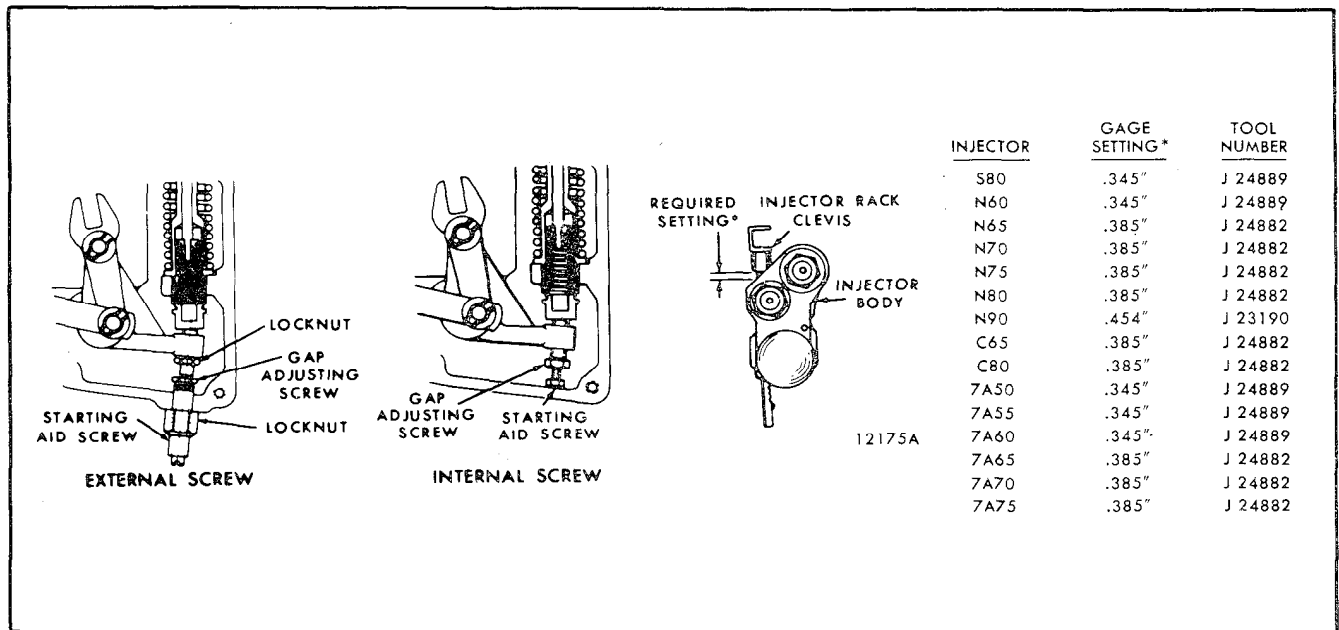

Fig. 6 - Starting Aid Screw Adjustment
- b. Adjust the starting aid screw to obtain the required setting between the shoulder on the injector rack clevis and the injector body (Fig. 6). Select the proper gage and measure the setting at any convenient cylinder. When the starting aid screw is properly adjusted, the gage should have a small clearance of 1/64" (.397 mm) in the space along the injector rack shaft between the rack clevis and the injector body.
- b. Hold the gap adjusting screw, to keep it from turning, and adjust the starting aid screw to obtain the required setting between the shoulder on the injector rack clevis and the injector body (Fig. 6). The setting is measured at the No. 3R injector rack clevis.